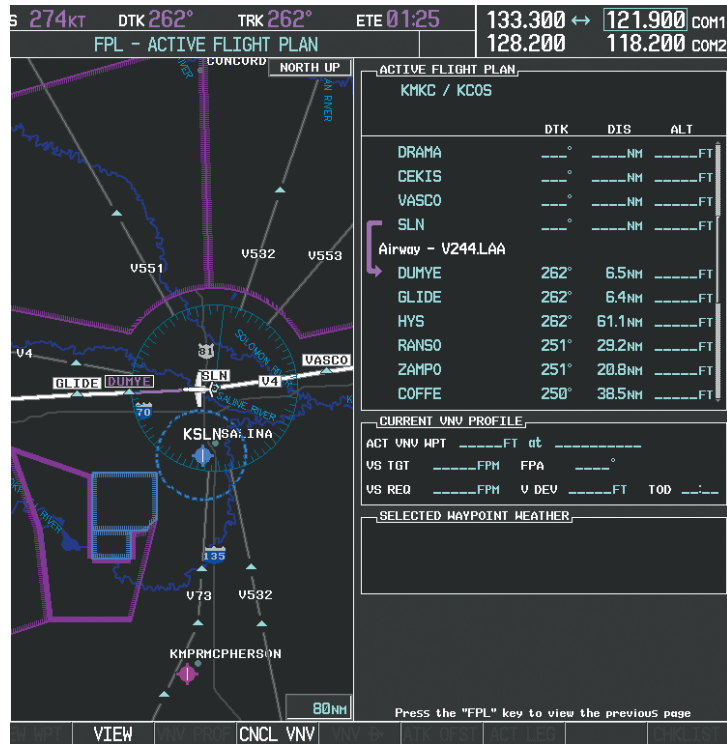

Figure 5-126 V244 Now Active Leg
9) As seen in Figure 5-126, V244 is now the active flight plan leg.